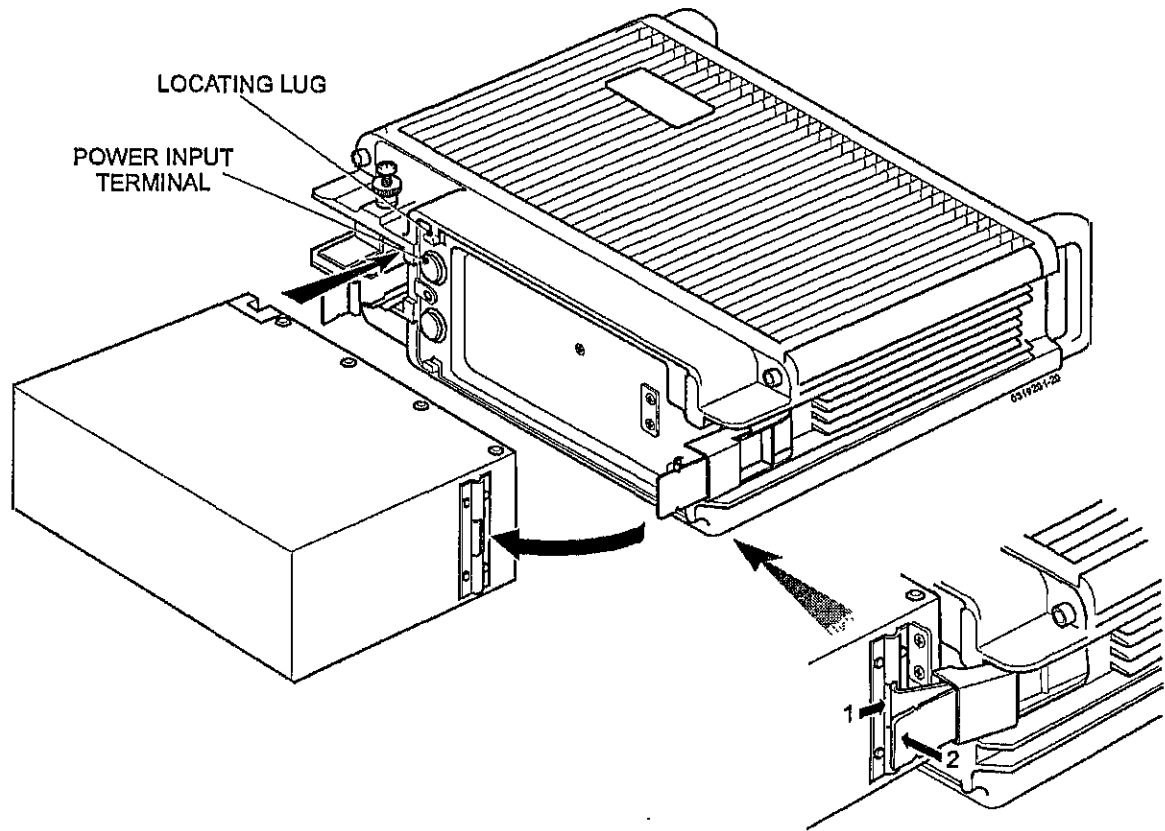

Fig 5 Operational battery installation on R/T unit
13.5 Carefully align the battery with the R/T unit rear panel terminals and adjacent locating lugs (Fig 5), and secure with the two quick-release fasteners.